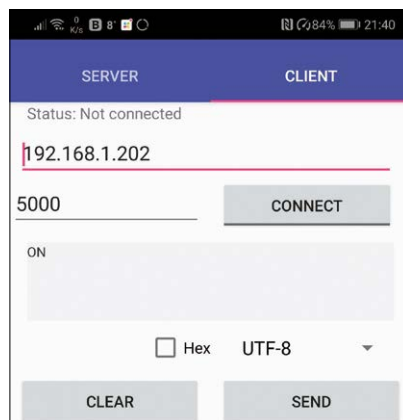

Figure 9.18 Enter ON to turn ON the LED
- Enter message **ON** and click SEND as shown in Figure 9.18 and you should see the LED to turn ON